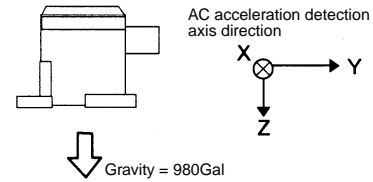

Figure 3A Z-axis FSG measurement ( $\alpha Z_0$ )
(1) Put this unit in the posture shown in Figure 3A.